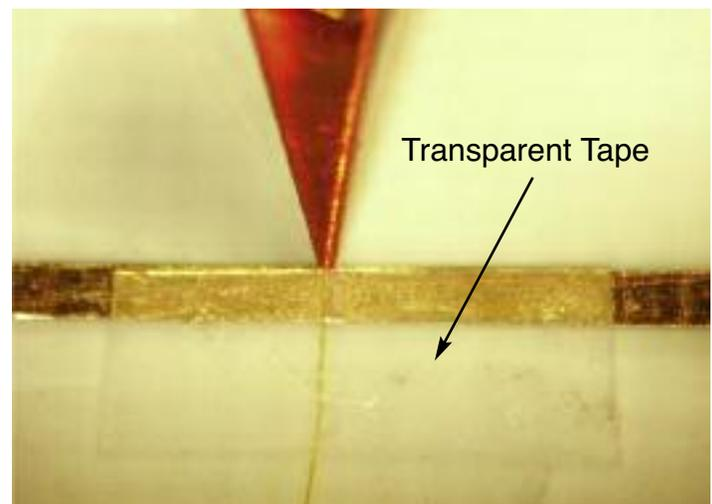

Figure 16: Securing the coil lead with clear tape
- After the glue hardens, stand the coil/foam assembly onto the microstrip board and position the coil's pointed end lead across the printed line at the scribed location of step 2. Temporarily secure this lead to the printed line and dielectric surface with transparent tape as shown in **Figure 16**.